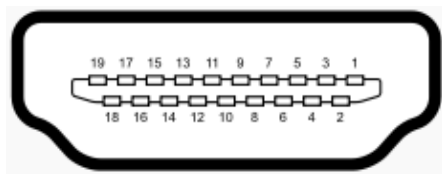

Figure 3-23: HDMI Connector Pinout Locations
- CN Pinouts:** See **Table 3-22** and **Figure 3-23**